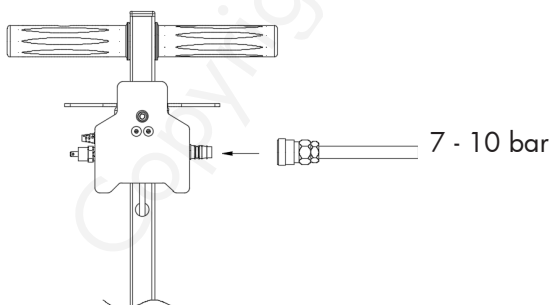

Figure 4
3. Air connection: After assembly, connect the air source to the connector (see figure 4). The air pressure range is 7 - 10 bar.